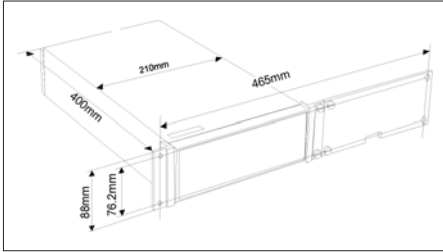

Fig. 1-3 Dimensions for rackmounting hardware.
- Mount the two rear feet with the screws (B) to the rear panel.
- Put the two screws (A) back.
- Fasten the brackets at the left and right side with the screws included as illustrated in Fig. 1-3.